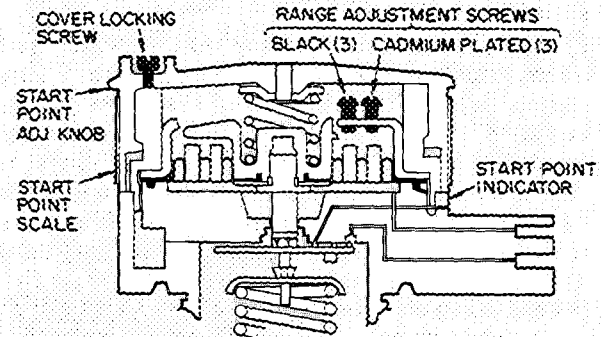

Fig. 17 – Pneumatic Valve Positioner
1. Locate valve (pilot) positioner (Fig. 17) on each capacity control valve. Use wrench, taped to valve, to loosen positioner cover locking screw.